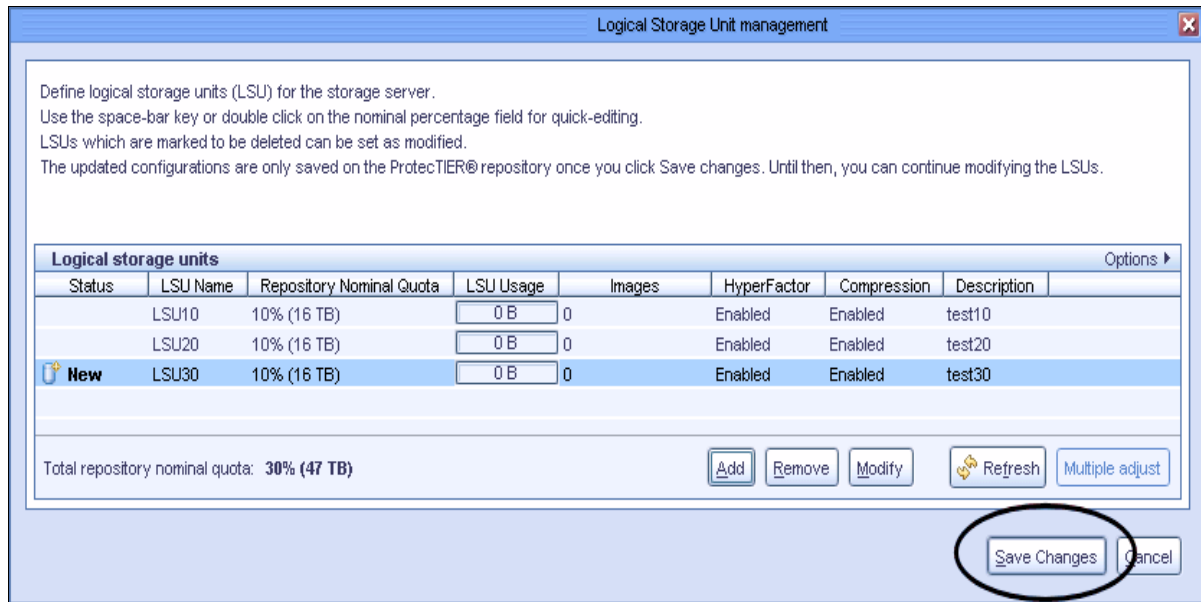

Figure 5-89 Save the changes on the Logical Storage Unit management window
6. Click **Save** to save the LSU properties (Figure 5-89).